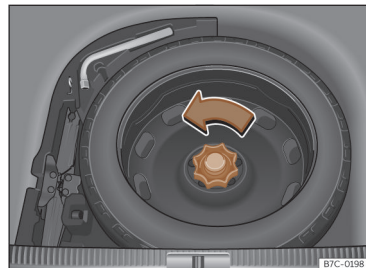

Fig. 223 In the luggage compartment: load floor raised. »
- Turn the thumb wheel anti-clockwise »» **Fig. 223**.